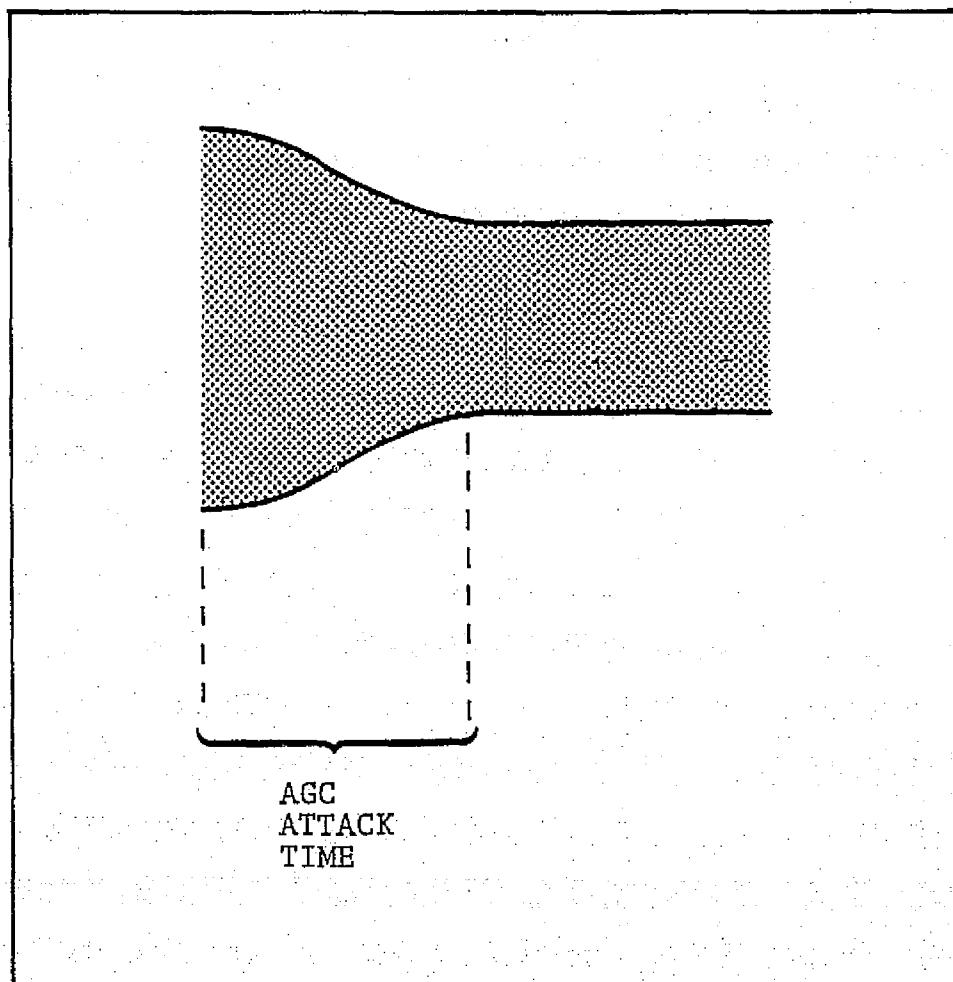

Figure 3-3. — AGC attack time waveform.
11. Set the control panel mode switch to ATTACK. The oscilloscope should now display a waveform similar to that shown in figure 3-3. Measure the AGC attack time as shown and record it on line 39, of data sheet A-3.